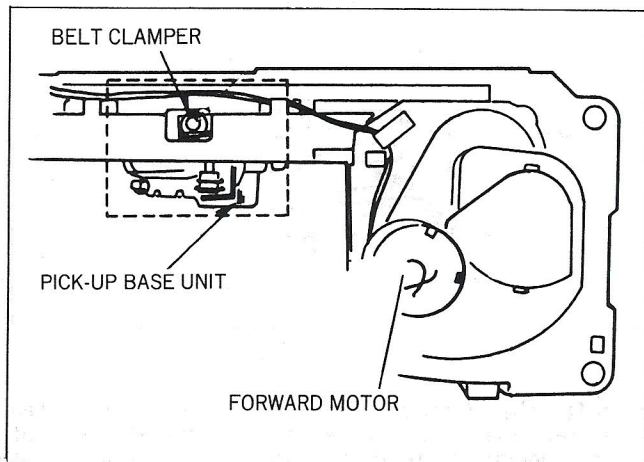

Fig. 8-1
1. To replace the Forward Motor, perform item 1 to 3 of "Replacement of Pick-up Base" as shown in Fig. 8-1 and 2.
2. Remove 6 screws (S), (T) and (U) and C Ring for Flex. Cable Holder Spring then remove the Guide Base (L).
2. Install the Pick-up Base on the Traverse Unit. Move the Pick-up Base and Belt Clamper by rotating the Belt Pulley so that the hole in the Pick-up Base aligns with hole in the Belt Clamper as shown in Fig. 8-1. Screw on the Pick-up Base.